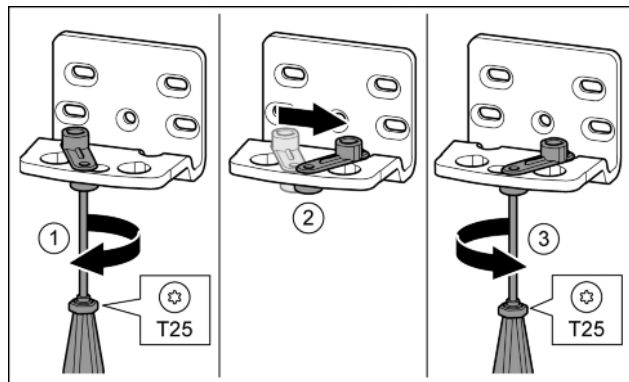

Fig. 17
- Loosen the screw using a T25 screwdriver. Fig. 17 (1)
- Lift the door closure aid and turn it 90° to the right in the hole. Fig. 17 (2)
- Tighten the screw using a T25 screwdriver. Fig. 17 (3)